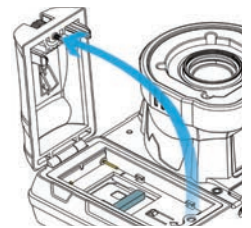

FIGURE 1
- 1 Open the battery compartment door (Fig.1) using the stylus screwdriver. Remove the battery (if installed).
Open the battery compartment door (Fig. 1) using the stylus screwdriver. Align the gold contact pins (Fig. 3) in the compartment with the contact holes on the battery. (Fig. 4)